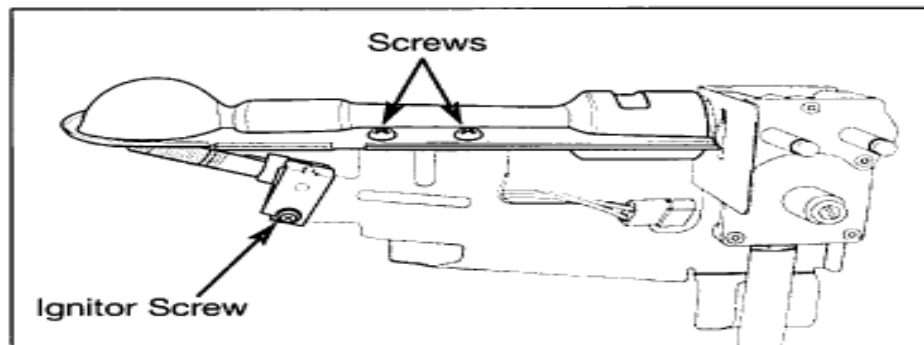

Figure 4-51.
7. Using a #2 square bit screwdriver, extract the screws securing the burner assembly to the gas valve mounting bracket. (See Figure 4-51)
9. Extract the screw securing the ignitor to the gas valve mounting bracket. Lift the ignitor off the tab and remove from bracket. (See Figure 4-51)